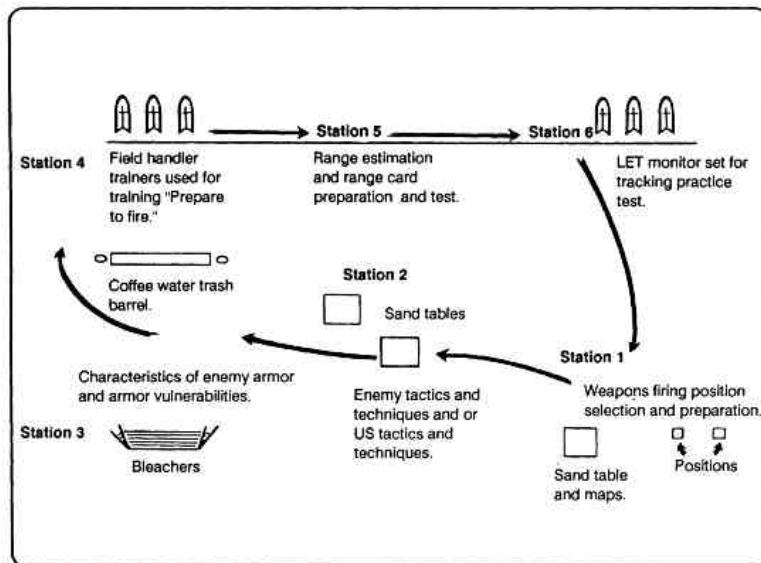

Figure 5-1. Example of round-robin.
(1) *Round-robin.* Because of the limited number of training sets in the battalion, all gunners cannot practice at the same time. Rather than have a few gunners practice on the training equipment while other soldiers watch, a round-robin setup could be used to keep all the soldiers engaged in productive, active training. The round-robin setup is a series of concurrent training stations through which each platoon member rotates. For example, Station Number 1 may be for the training equipment, Station Number 2 may require preparation of range cards, Station Number 3 may require identification of enemy tanks through the use of flip charts (Figure 5-1).